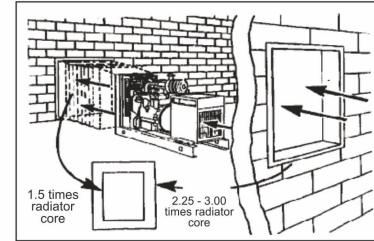

Figure 4.3
- For radiator cooled engines, opening in front of radiator should be 1.5 times bigger than radiator core and at back 2.25 to 3 times bigger than radiator core. Ducting in front of radiator is recommended, however it is not mandatory. If exact opening in front of the radiator is not possible then ducting should be equipped to take out hot air. If opening in the back side of genset is not possible then opening on both sides of genset at the rear of the alternator may be acceptable. In this case total openings in two side walls should be at least 3 times bigger than radiator core. (figure 4-3)